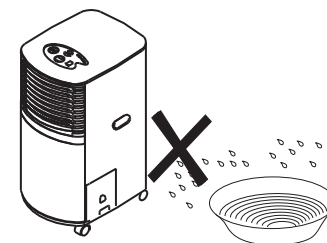

fig. 3
- Do not use the product in a wet room, such as bathroom or laundry room (fig. 3).